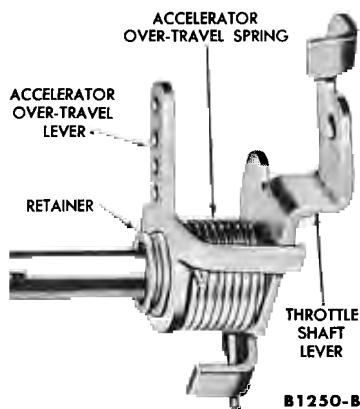

FIG. 22—Accelerator Over-Travel Spring and Lever Installation
2. Slide the over-travel lever and spring assembly on the throttle shaft and bushing. Hook the longest tang of the spring under the closed throttle lug of the throttle lever (Fig. 22). Install the over-travel lever retainer. Slide the throttle shaft assembly into the main body.